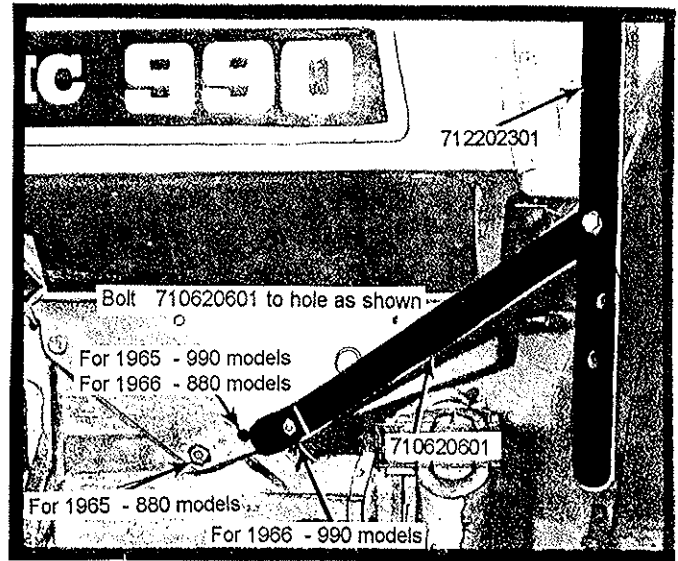

Figure 2
4. Slide #712202301 door post into wide hem on left side. Bolt top of door post to yoke using 1/4" x 1" bolt and nut. Bolt #710620601 door post brace to door post using 5/16" x 3/4" bolt and nut, brace goes on inside of door post. Bolt to tractor using 3/8" x 1" bolt and nut. **995 Model** hole has to be drilled in panel approximately 7" from back edge. Be sure door post is straight up and down. Place brace against panel on tractor and if brace does not line up with hole in panel, drill one. See Figure 2.